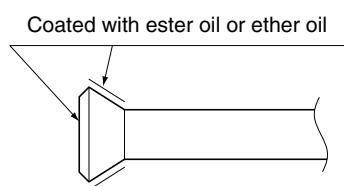

Fig. 17
- When connecting the flare nut, coat the flare both inside and outside with ether oil or ester oil and initially tighten by hand 3 or 4 turns before tightening firmly. (Refer to Fig. 17)